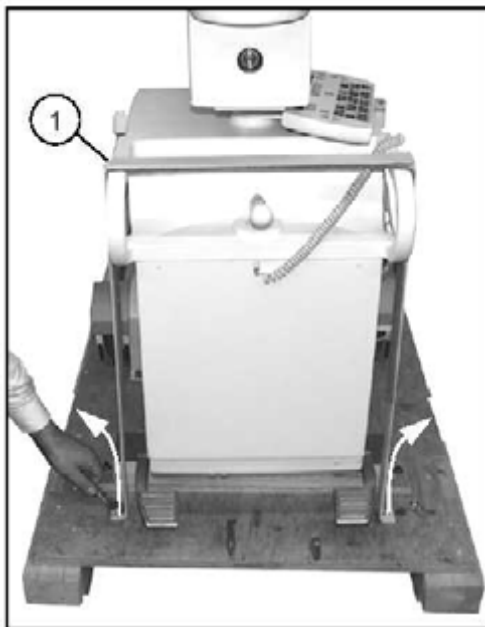

Fig. 3: Retaining clamp_1
- Unscrew and remove the retaining clamp (1/ Fig. 3 / p. 5).